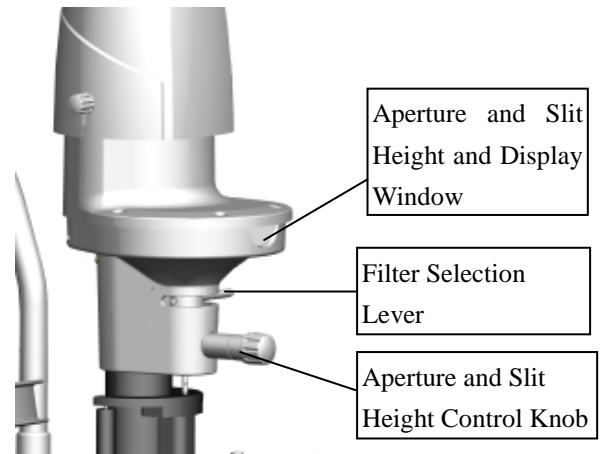

Fig2.3.2
- Check whether the moving parts such as the slit and aperture width knob, the aperture adjustment knob, the filter selection lever (see Figure 2.3.2), the zoom knob (see Figure 2.3.3), and the joystick (see Figure 2.3.4) operate normally.